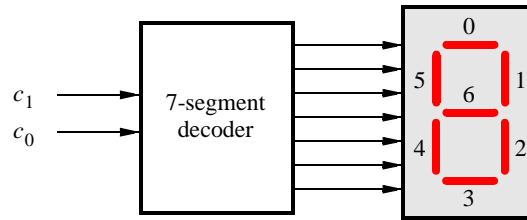

Figure 6: A 7-segment decoder.
The objective of this part is to display a character on a 7-segment display. The specific character displayed depends on a two-bit input. Figure 6 shows a 7-segment decoder module that has the two-bit input c_1c_0 . This decoder produces seven outputs that are used to display a character on a 7-segment display. Table 3 lists the characters that should be displayed for each valuation of c_1c_0 for your DE-series board. Three characters are included plus the ‘blank’ character, which is selected for code 11.
2. Create a VHDL entity for the 7-segment decoder. Connect the c_1c_0 inputs to switches SW_{1-0} , and connect the outputs of the decoder to the *HEX0* display on your DE-series board. The segments in this display are called $HEX0_0, HEX0_1, \dots, HEX0_6$, corresponding to Figure 6. You should declare the 7-bit port